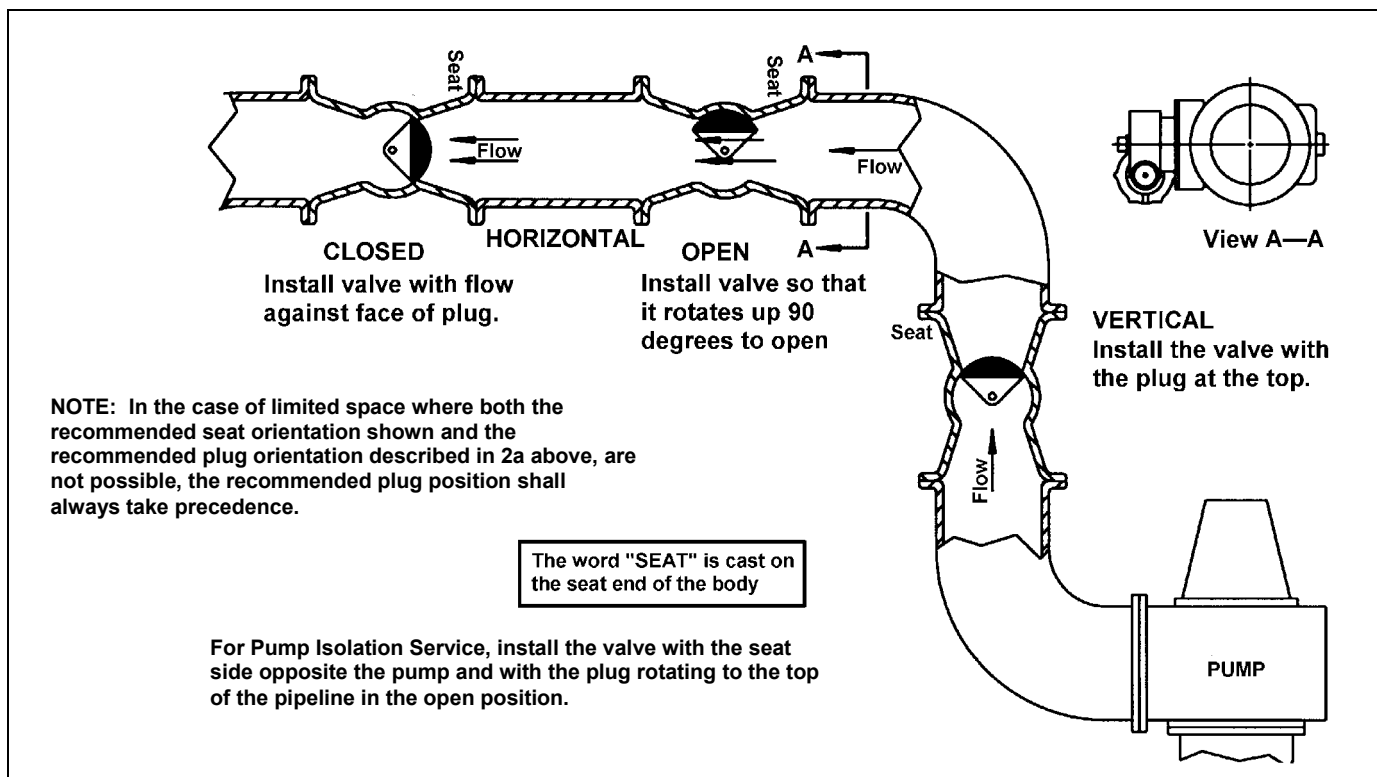

Figure 3 — Liquids with Suspended Solids
2. Install the valve as shown in Figure 3.